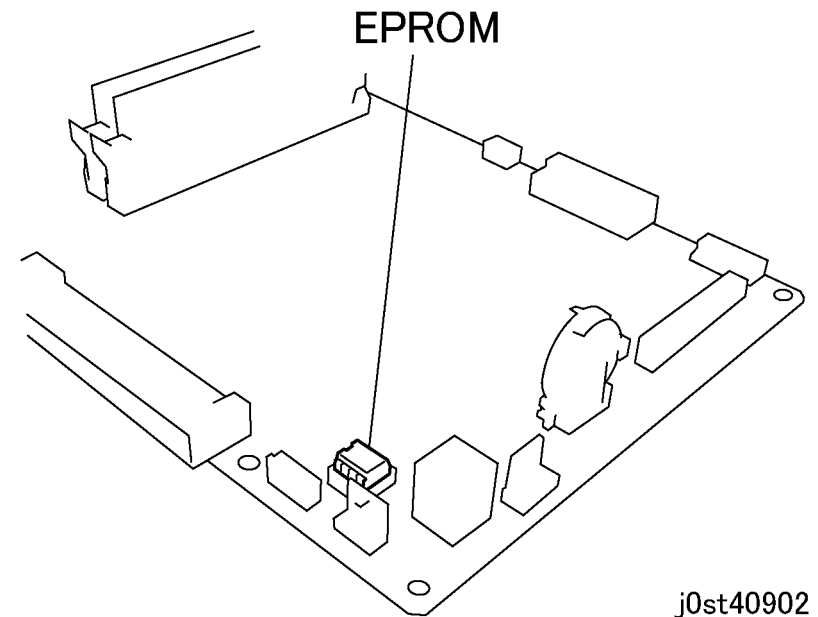

Figure 1 ESS PWB EPROM Location (j0st40902)
3. Remove EPROM from ESS PWB and save for installation on new ESS PWB (Figure 1).
1. Install the EPROM from the old ESS PWB on the new ESS PWB (Figure 1).